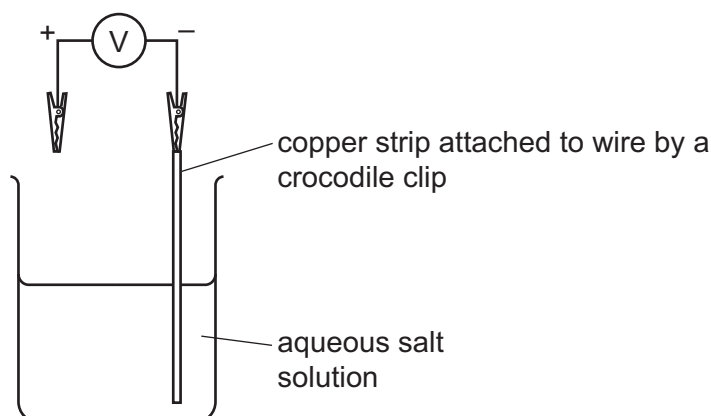

Fig. 4.1
- Assemble the apparatus as shown in Fig. 4.1, keeping the copper strip towards the edge of the beaker.